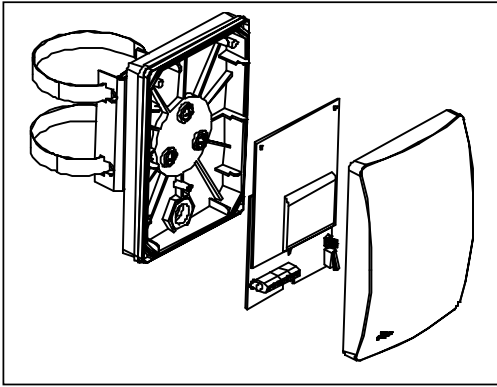
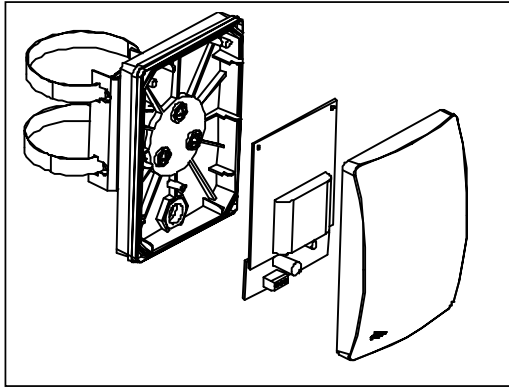

Fig. 7. CSB-60R - Receiver unit with binding band.
Fig. 8. CSB-60T - Transmitter unit with binding band.
1. Take off the cover from receiver - R (fig. 7) and transmitter - T (fig. 8) units.